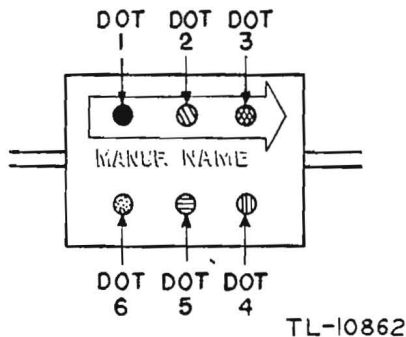

Figure 11. Molded-mica capacitors. AWS six-dot color code.
g. The AWS Code for Mica Capacitors. (1) The AWS (American War Standard) code for molded-mica capacitors is shown in figure 11. Like the RMA code, it makes use of six colored dots, but with somewhat different significance. The first four dots give the capacitance in micromicrofarads as follows: first significant figure, second significant figure, third significant figure, and the decimal multiplier. It will be noted that this scheme makes provision for marking units with three significant figures. However, none of the capacitors standardized under the AWS code requires more than two significant digits to specify its capacitance. The first dot on all molded-mica capacitors, marked with the AWS code, is black, and the two necessary significant figures are given by the second and third dots. As a result the black first dot becomes an important feature or identification symbol for a molded-mica capacitor marked according to the AWS code. A few examples may serve to make this clear. A 120-micromicrofarad capacitor is marked as follows: black (0), brown (1), red (2), brown (10), indicating a molded-mica capacitor of 120 micromicrofarads. A 9,100-micromicrofarad capacitor will be marked black (0), white (9), brown (1), red (100), in-